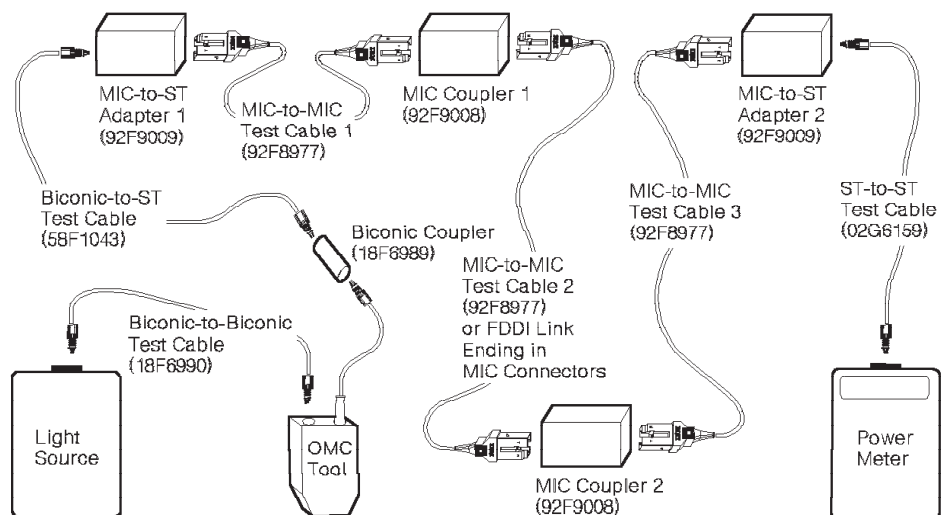

Figure 3-5. Obtaining the FDDI End-to-End Link Loss Using the Fast-Path Method
- FDDI links, see Figure 3-5 on page 3-25.